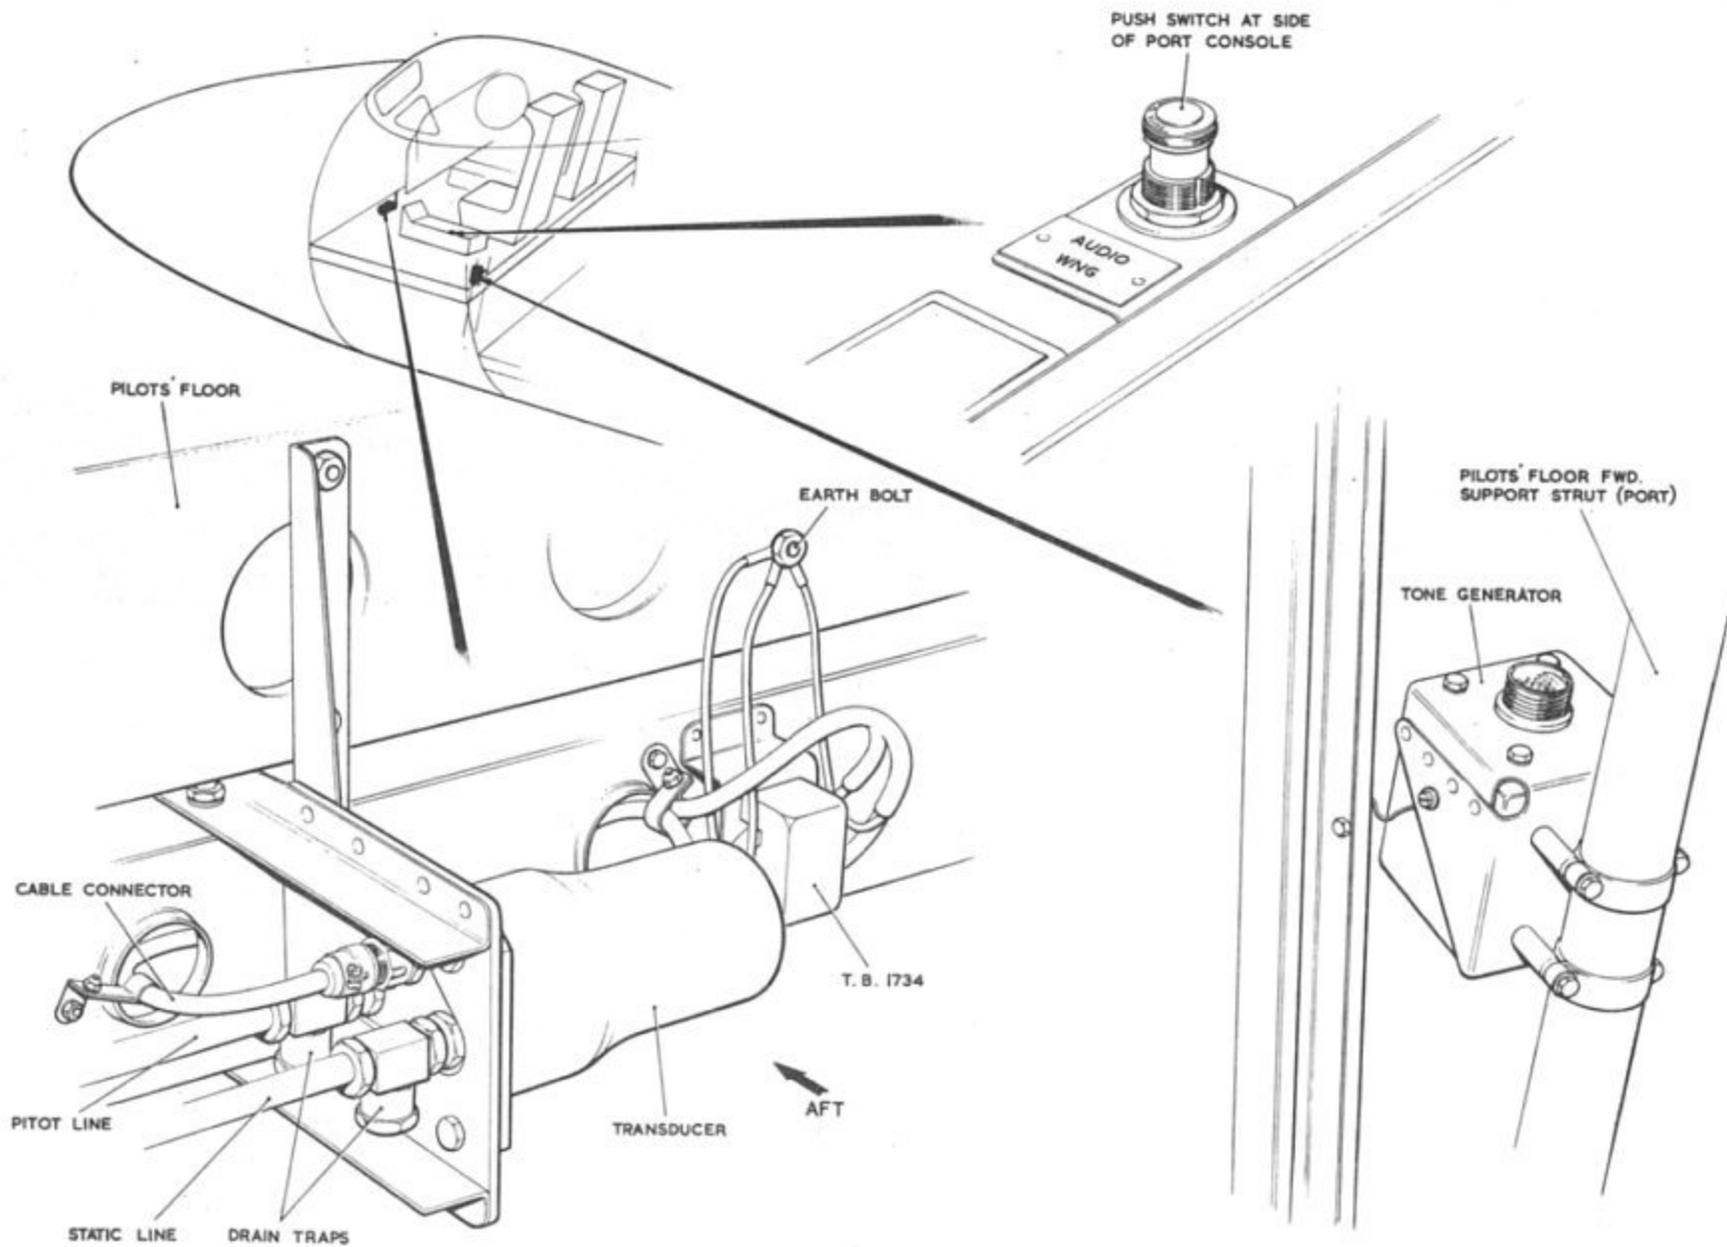

Fig. 4 Airspeed audio warning equipment
31. The high airspeed audio warning system has been introduced by Mod.1900 and its purpose is to give an audio warning to the first and second pilots when the aircraft airspeed has reached a critical value during low level flight. The main items of equipment comprise a transducer, Ref.No. 6A/9467, and a tone generator, Ref.No. 6A/9466. A push-to-test switch is fitted on the pilots console 6P. A location diagram and a routing chart are contained in fig.4 and 5 respectively.
32. The transducer and tone generator are mounted under the pilots' floor as shown in fig.4. The transducer is connected to the pitot-static pressure system and when the airspeed of the aircraft reaches 370 to 380 knots the transducer switches the tone generator on, the output tone being directly connected to the first and second pilots' headsets via T.B.1043 and T.B.1044 respectively. When the push-to-test switch on console 6P is depressed the earth return to the transducer is broken and the tone generator in turn is switched on, thus injecting the warning tone into the first and second pilots' headsets.